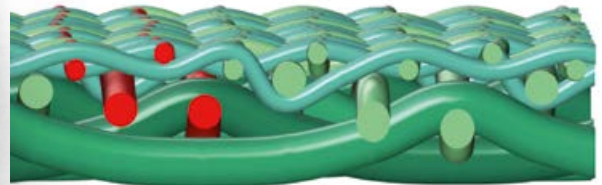

Fig. 11: Primoselect – no separation and offset MD yarns
**in the middle of the structure**. This is because the binding yarns run through this area and force the top and bottom layers apart (Fig. 10). Essentially this means that the designer has **little control over fabric caliper**, which can lead to an increase in void volume and give less control over dewatering. Put together, these issues can lead to increased drive load, reduced dewatering capacity, more water transportation and greater machine contamination with fibres and fillers around the loop. Plenty of reasons to take that look inside the fabric! When a single binder yarn is used in **Primoselect designs, fabric separation no longer occurs** (Fig. 11).